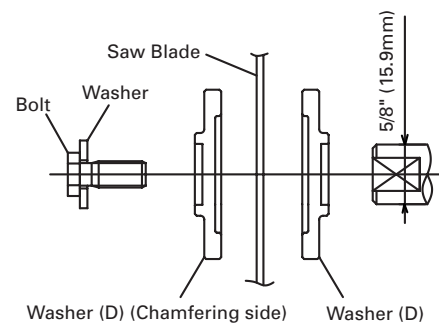

Fig. 33-d
- (7) Press in the spindle lock and tighten the bolt by turning it to the left by standard accessories wrench (10mm box wrench) as indicated in Fig. 33-c.